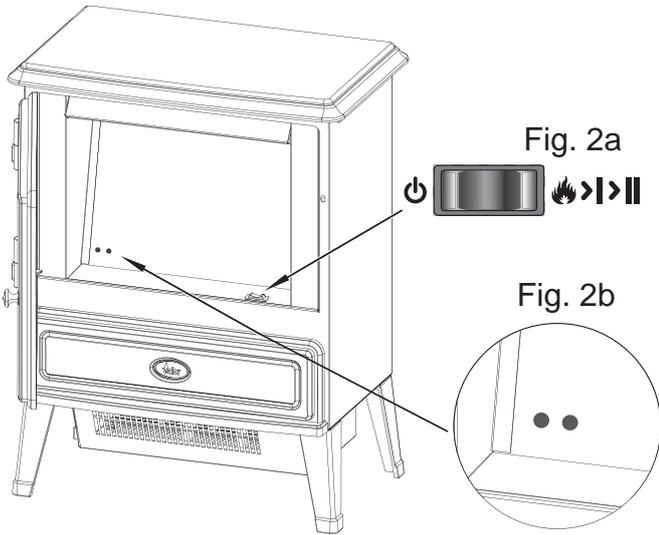

Fig. 3
1. Unclip the battery cover on the back of the remote control. (Fig. 3)